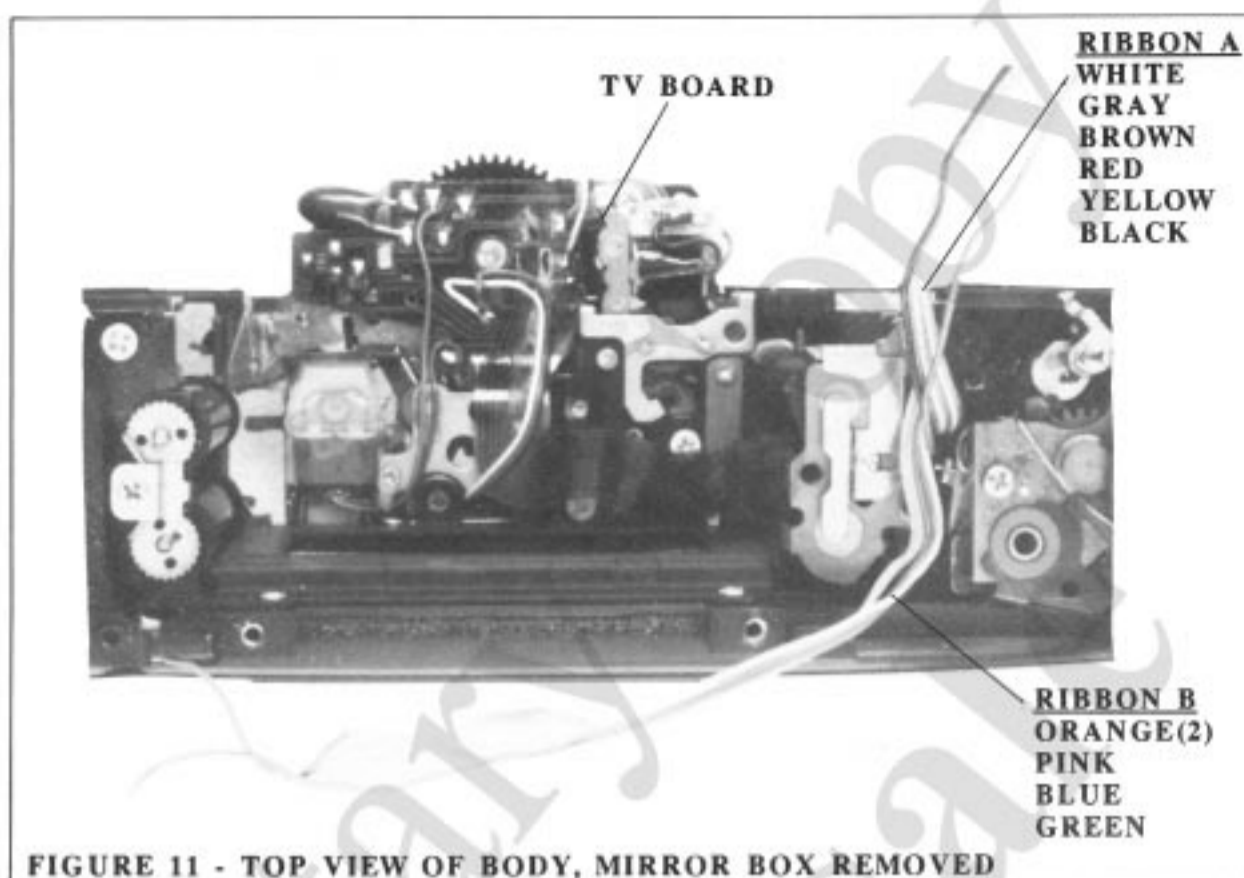

FIGURE 11 - TOP VIEW OF BODY, MIRROR BOX REMOVED
10. SW205. Bulb switch at underside of TV gear, Fig. 11. Closed at the mechanical settings (bulb and 1/60). With SW205 closed, the CPU does not provide the signals to turn on the LCD and to energize the magnets. Operation is mechanical.
6. Position the wires of ribbon B to the back of the camera. Position the wires of ribbon A to the front, Fig. 11.